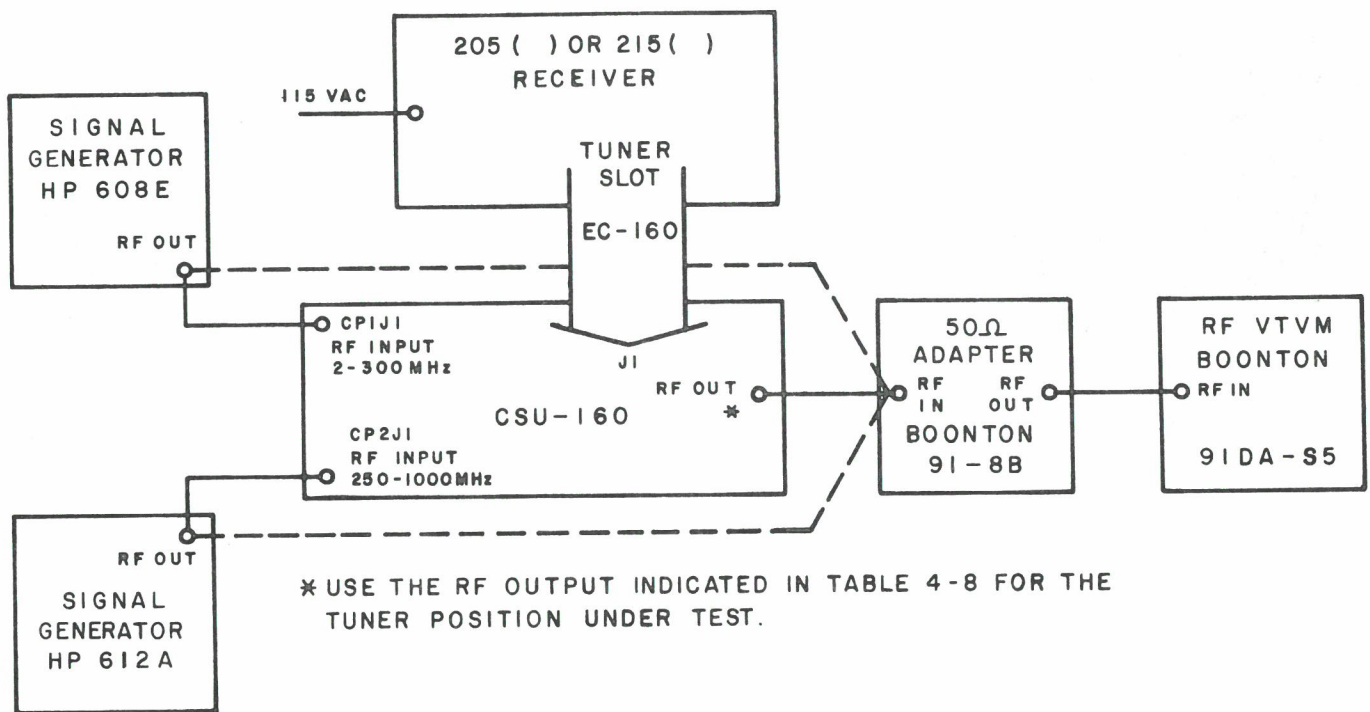

Figure 4-4. Test Setup, RF Switch Checks
- (1) Set up the equipment as shown in Figure 4-4. Do not connect the HP-612A Signal Generator to the CSU-160.
- (2) Turn on the 205-() or 215-() Receiver. Set the mode switch to MAN.
- (3) Set the MODE pushbuttons on the CSU-160 to LOCAL and MANUAL. Set the DISPLAY pushbutton to NORMAL.
- (4) Tune the HP-608E Signal Generator to 300 MHz and set its attenuator to -20 dBm.